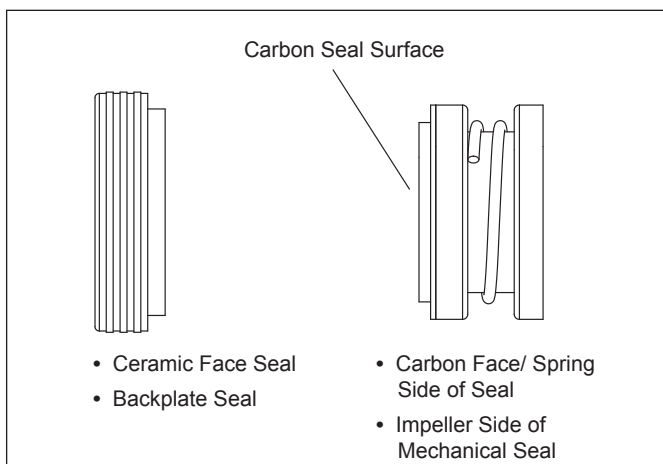

Figure 11. Mechanical Seal
1. Press the new carbon face seal half (see Figure 11) on the motor shaft using a twisting motion. Make sure the carbon surface is facing toward the ceramic ring in the backplate.
2. Remove the carbon face seal half from the motor shaft (See Figure 11). This is a spring-loaded seal. Grasp the portion of the seal closest to the impeller body and pull the seal off, using a twisting motion.